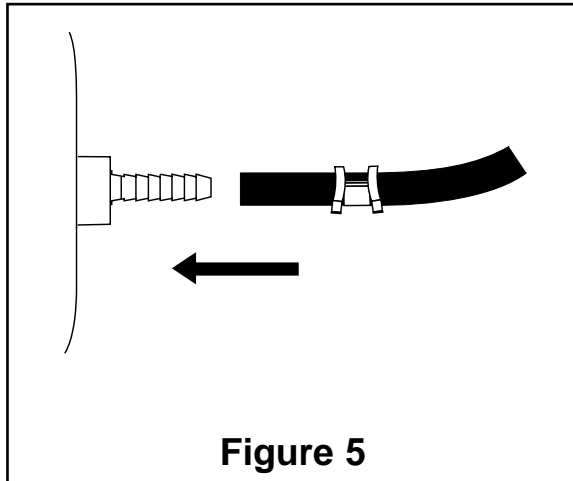

Figure 5
5. Cut the air line in equal lengths and slide on air line clamp over one end. Push the air line onto the stem of air cylinder, covering all the barbs. With pliers slide the air line clamp downward until it fully covers the barbed section (Figure 5).